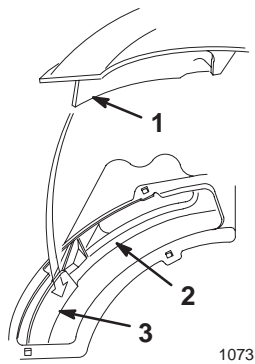

Figure 36
4. Place front corner of the chute baffle into the deck opening. Rotate the chute counterclockwise and push down into the deck opening (Fig. 36).
5. Place the front corner of the mulch plate baffle into the deck opening (Fig. 36).
6. Rotate the mulch plate counterclockwise and push it down into the deck opening (Fig. 36).